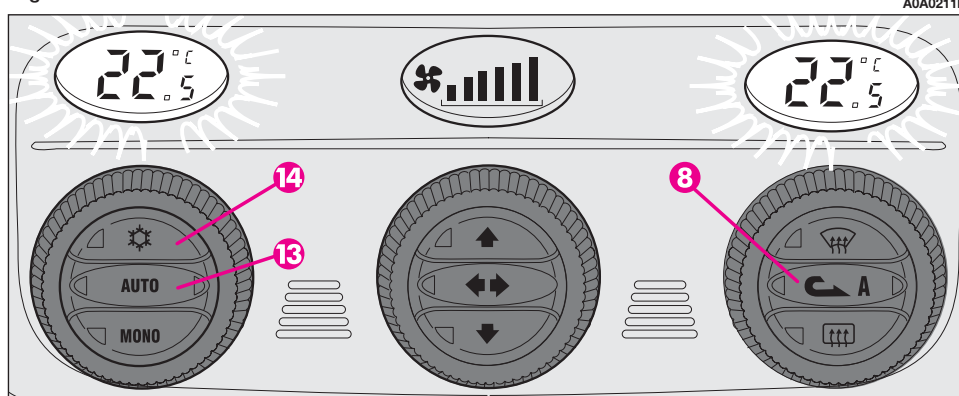

fig. 106
With the climate control compressor off, it is not possible to admit air to the passenger compartment with a temperature below the outside temperature; in this case, the value flashes on the display concerning the temperature that cannot be reached and the left led on button (13) **AUTO** - **fig. 106**) goes off.